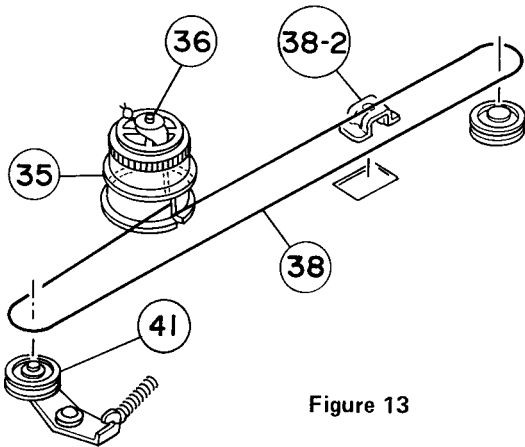
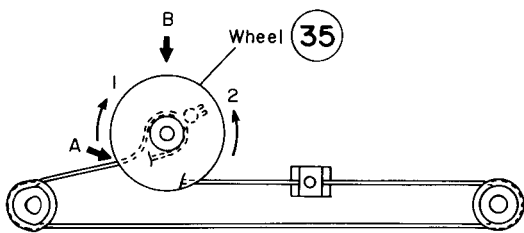

Figure 13
Figure 14
- (1) Prior to mounting, Wire Assembly "38" should be rolled two turns with the Wheel "35" as shown in Figure 13.
- (2) Place the Wheel "35" to the Shaft "36", and rotate the wheel clockwise until the starting point of the wire (slit on pulley) comes to the Point A as shown in Figure 14.
- (3) Rotate the wheel then counterclockwise until the arrowed point A comes to the arrowed point B. This position will correspond to the most left possible location of the Plate Assembly "39".
- (4) Place the Guide "38-2" to the depressed part on cabinet bottom as shown in Figure 13.